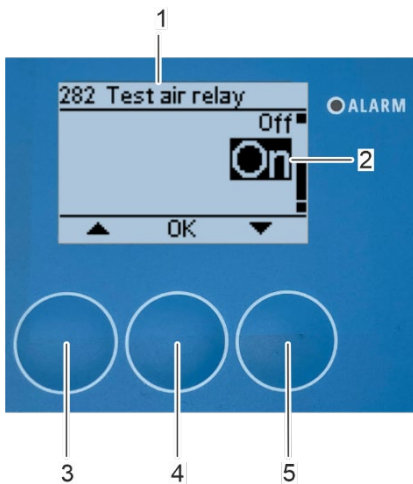

Fig. 145: Switch on compressed air relay
⇒ The "282 Test air relay" submenu (Fig. 145/1) appears on the display.
3. Select "On" (Fig. 145/2) with the arrow keys [up] (Fig. 145/3) and [down] (Fig. 145/5).
4. Confirm the selection with [OK] (Fig. 145/4).